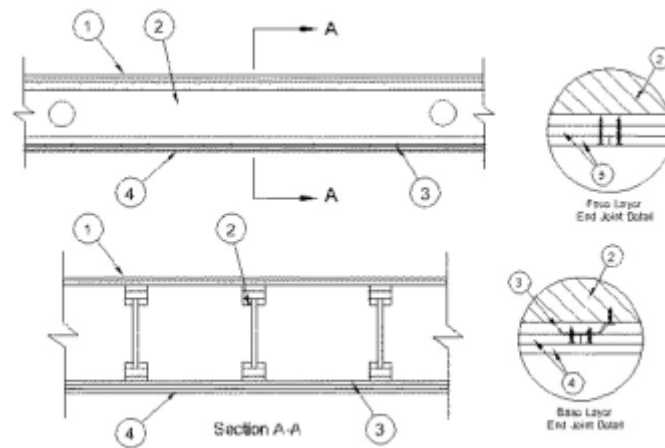

FIGURE 2—Unrestrained Assembly Rating—1½ Hour Finish Rating—60 Minute
4.2.2 Fire-resistance Floor and Ceiling Rating: The fire-resistance-rated assembly shown in Figure 2 is based on a UL design. Homasote 440 SoundBarrier® may be used in fire-resistance-rated floor/ceiling assembly when constructed as indicated in the design. When using these assemblies, all details must be in accordance with the specifications contained in UL *BXUV GuideInfo*.